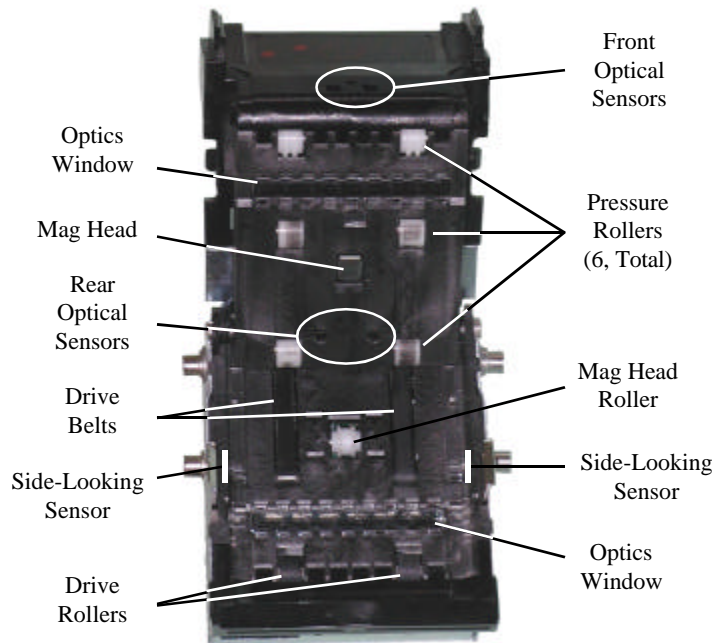

Figure 12. Currency Channel – Cleaning Surfaces
4. Using a soft, lint-free cloth dampened with 90-percent isopropyl alcohol, clean the following areas (**Figure 12**):